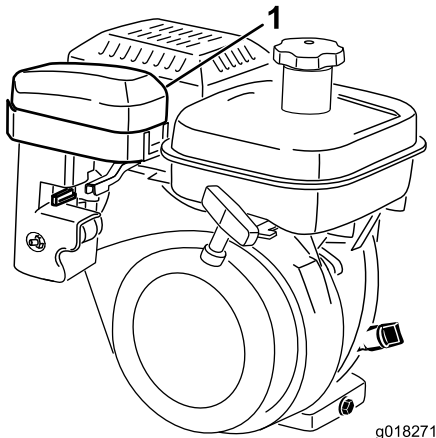
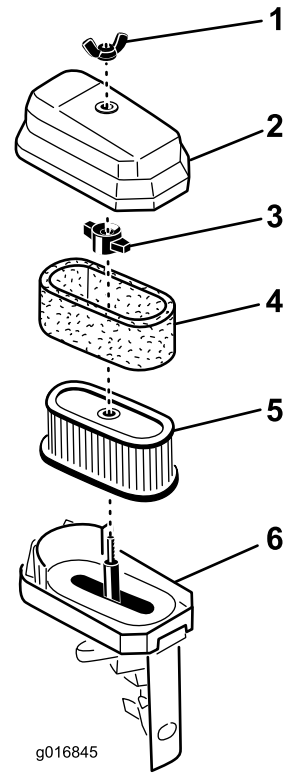

Figure 36
Figure 37
3. Clean the cover (Figure 36 and Figure 37).
4. If the foam element is dirty, remove it from the paper element (Figure 37). Clean it as follows.